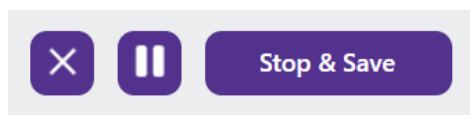

Figure 16. Buttons to cancel, pause or finish the recording.
9. Monitor the baseline during recording; if stepping, drifting, or noise is observed then the recording should be either paused and then resumed once the baseline is re-established, or cancelled and a new recording started once the issue is resolved (Figure 16).
10. When you have recorded the required number of blockades, click 'Stop & Save' (Figure 16).